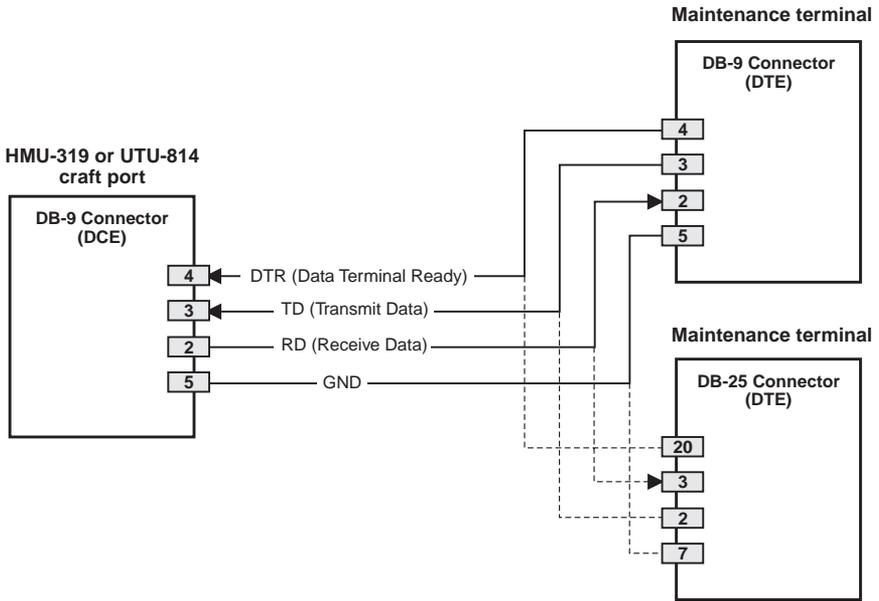

Figure 7. *HMU-319 Craft Port and Maintenance Terminal Connector Pinouts*
- 1 Connect a standard serial cable from the maintenance terminal COM port to the front-panel craft port of the HMU-319. The pinouts for the craft port and maintenance terminal connectors are shown in Figure 7 on page 12.